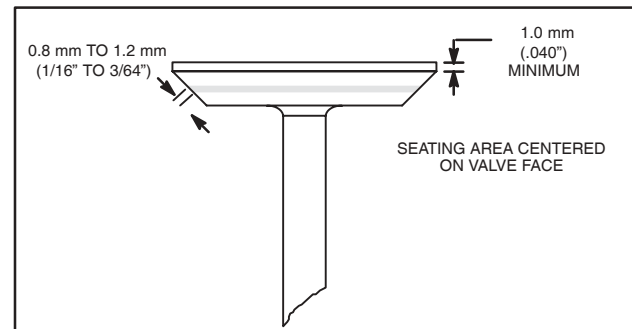
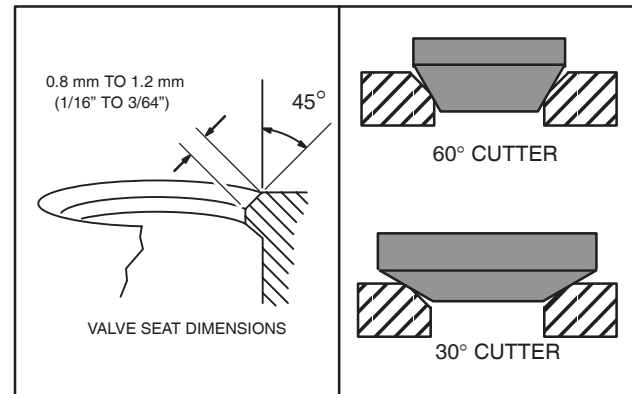

Fig. 20 – Valve Dimensions
Fig. 21 – Valve Seat Dimensions
- Valve faces may be resurfaced to 45° . See Fig. 20 for dimensions for valves. Lap valves and seats with valve lapping Tool, #19258 and valve lapping compound, Tool #94150.
If valve seat is wider than dimension shown in Fig. 21, a narrowing cutter should be used to ensure that contact area of valve seat is centered on face of valve, Fig. 20.
- Use a 60° cutter to narrow seat from bottom and a 30° cutter to narrow seat from top, Fig. 21.